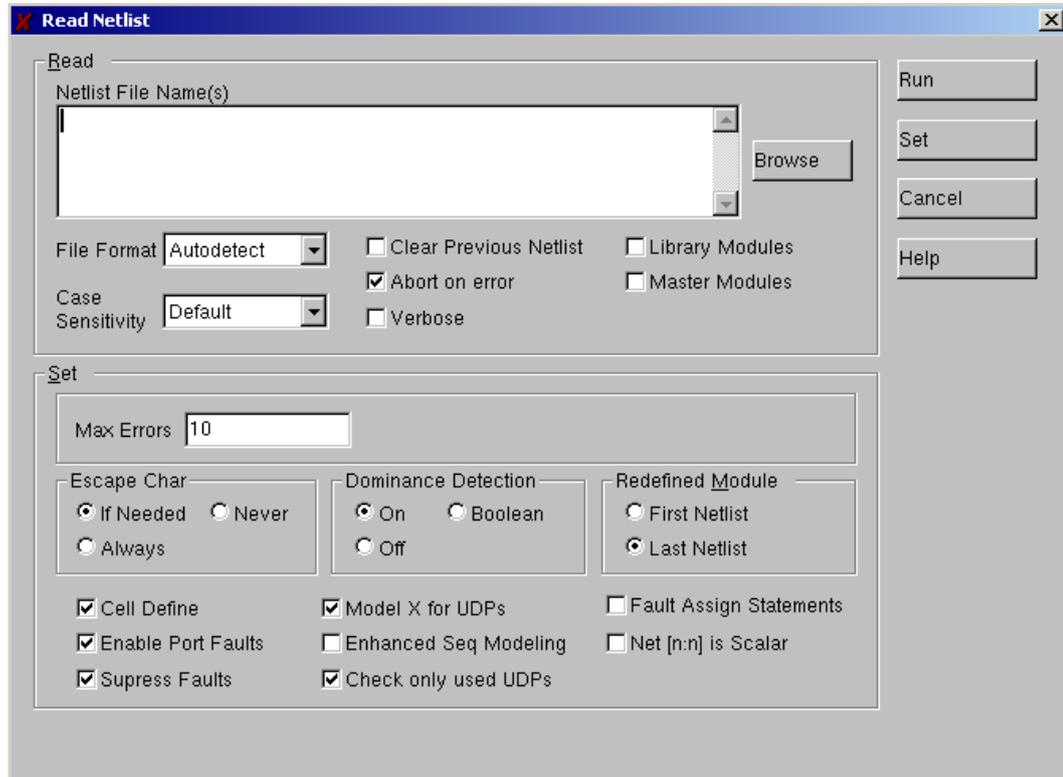

Figure 2: Read Netlist window
- Reading the description of the circuit: Using the **NetList** button you obtain the window shown in Figure 2. From this window, you must choose the input files, i.e. the library and the circuit description. First, you must read the **lib_comb.v** file by checking **Library Modules**. This file contains the gates used in the description of the circuit to be tested. Finally, you must again click on **NetList** to read your **Verilog description** without checking **Library Modules**.